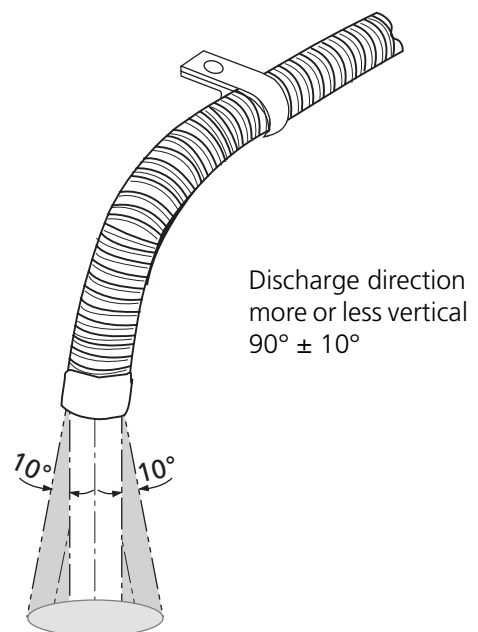

Figure 23: Exhaust pipe mouth, installation position
**WARNING:** If the exhaust pipe mouth is positioned other than as shown in Fig. 23, it will pose a fire risk.